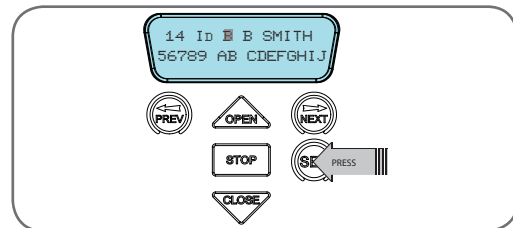

fig 35
1. Press NEXT or PREV to move select character. (**Fig. 35**)